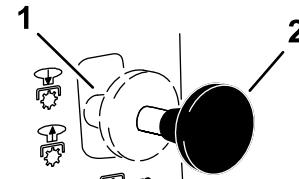

Figure 7
2. Pull the blade control (PTO) to on (Figure 7).
2. Push the blade control (PTO) to off (Figure 7).
3. Push the blade control (PTO) to off (Figure 7).